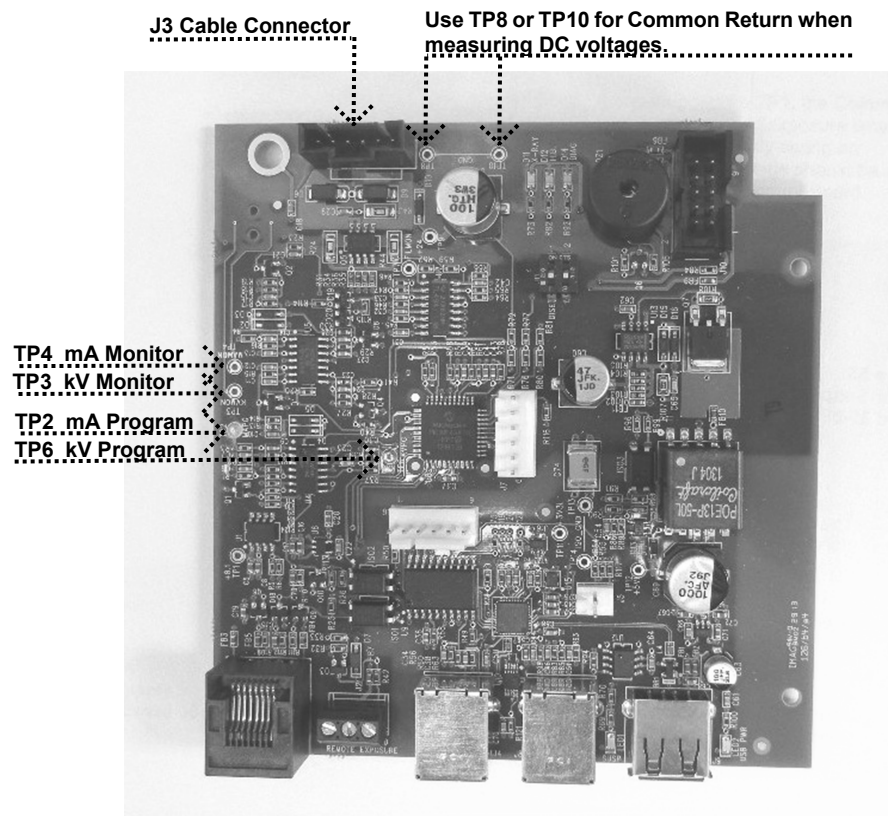

Figure 71
3. If the cabling is found acceptable, select 1.5 seconds of exposure time, and placing a DC voltmeter on TP8 or TP10, the Common Return on the Logic Board, measure the feedback values at TP4 mA Monitor and TP3 kV Monitor, as shown in *Figure 71*. Look for the following values:
1. On the Logic Board, place a voltmeter on TP8 or TP10, the Common Return, and TP6, kV Program, as shown in *Figure 71*. Compare measurements to the following chart (volts DC).
2. To evaluate the feedback voltages that represent the measured kV within the system, compare the observed values in the table below. To properly observe these values, select 1.5 seconds of exposure time and measure the DC voltages during the exposure only. This measurement is made across TP8 or TP10, the common return and TP3, the kV Monitor, as shown in *Figure 71*.
1. On the Logic Board, place a voltmeter on TP8 or TP10, the Common Return and TP2, mA Program, as shown in *Figure 71*. Compare measurements to the following chart (volts DC).
2. To evaluate the feedback voltages which represent the measured mA within the system, refer to the table below; select 1.5 seconds of exposure time and measure the DC voltages during the exposure only. This measurement is made across TP8 or TP10, the Common Return, and TP4, the mA Monitor, as shown in *Figure 71*.